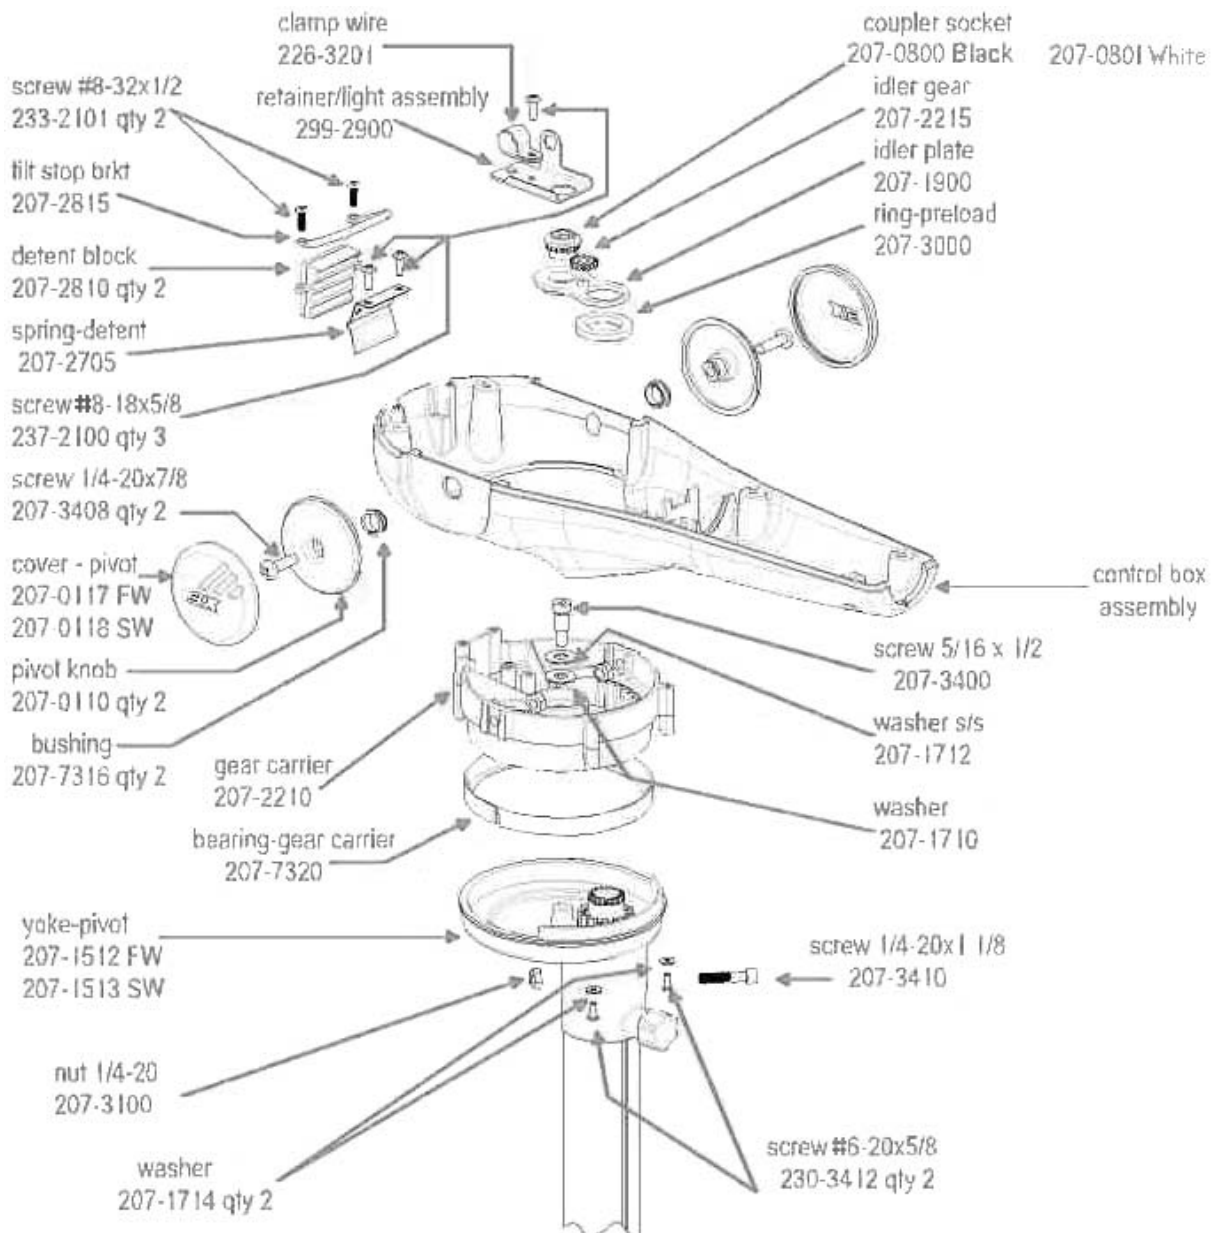

Fig. 4
- Step 5.** Once again, prior to further disassembly, note how the 3X motor wires are routed and held in position by the wire clamp located on the coupler socket retainer / indicator light bracket assembly P/N 2992900. (see Fig. 4, page 17-3) Also note how the directional indicator light wires are twisted and
- C. After removing the retainer / light assembly, remove the coupler socket, idler gear, idler plate, and preload ring (P/Ns 2070800/2070801, 2072215, 2071900, and 2073000). (see Fig. 4)
- Step 6.** Remove the two P/N 2332101 #8-32 x ½" tilt stop bracket / detent block retaining screws, then remove the P/N 2072815 bracket and P/N 2072810 detent block. (see Fig. 4, page 17-3)
- Step 7.** Remove the two soft plastic pivot knob covers (P/N 2070117 or 2070118) to expose the two ¼-20 x 7/8" Phillips head screws (P/N 2073408) that hold the pivot knob and control box assembly on the gear carrier (P/N 2072210) / pivot yoke (P/N 2071512 or 2072513) assembly. (see Fig. 4, page 17-3)
- A.** Removing the two P/N 2073408 screws (these two screws go in to two nyloc nuts located inside the gear carrier) will allow the control box assembly, pivot knobs, and bushings to be separated from the gear carrier and yoke pivot assembly. (see Fig. 4, page 17-3)
- Step 8.** With the control box assembly removed, unscrew the 5/16" x ½" socket head, shoulder shank cap screw (P/N 2073400) that is located in the center of the gear carrier (P/N 2072210). (A 5-32" allen wrench / driver is required.) (see Fig. 4, page 17-3)
- A.** Remove the cap screw along with the washers, then remove the two P/N 2303412 #6-20 x 5/8" Phillips head screws and P/N 2071714 washers that serve to guide/retain the gear carrier on the pivot yoke. (see Fig. 4, page 17-3)
Step 7. Re-install the control box with bushing and pivot knobs on to the gear carrier pivot yoke assembly. (see Fig. 4, page 17-3)